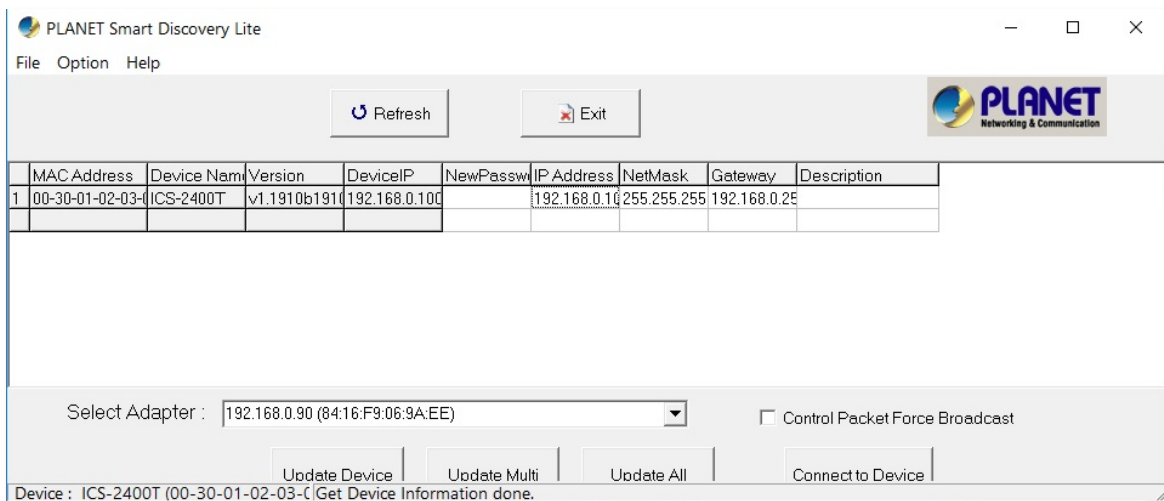

Figure 3-4-2: Planet Smart Discovery Utility Screen
3. Press the **“Refresh”** button for the currently connected devices in the discovery list as shown in Figure 3-4-2.
4. Press the **“Connect to Device”** button and the Web login screen appears as shown in Figure 3-4-2.